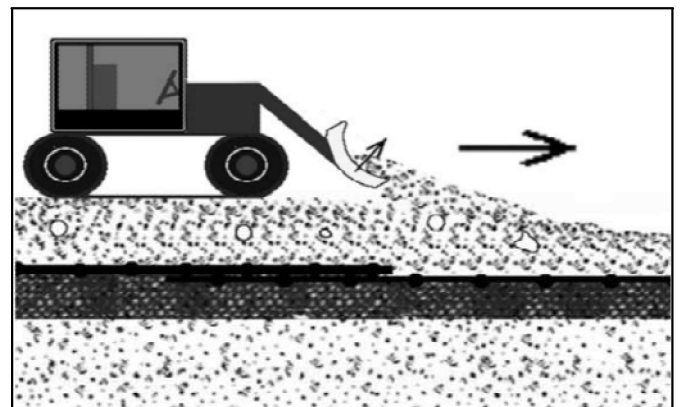

Figure 1: Geogrid overlapping and fill spread direction
- To minimize geogrid wrinkles caused by the shoving action, fill material shall be pushed forward and spread while gradually lifting the blade or bucket, as shown in figure 1.